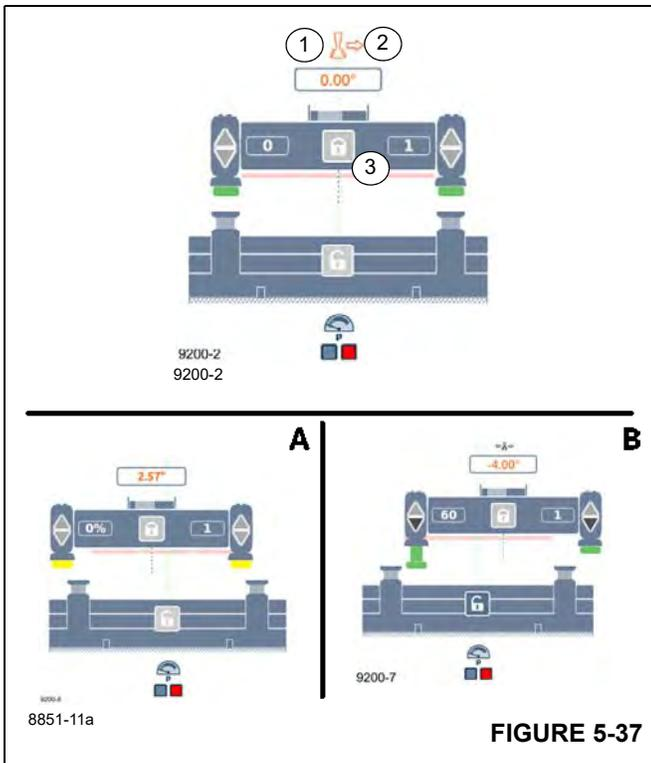

FIGURE 5-37
- Select and confirm the symbol (3), (Figure 5-37).
- To swing, move the control lever in the displayed direction (1) or (2), (Figure 5-37) – the automatic mode starts.
- The superstructure turns into position (A), (Figure 5-37).
- The lifting cylinders are extended (B), (Figure 5-37).